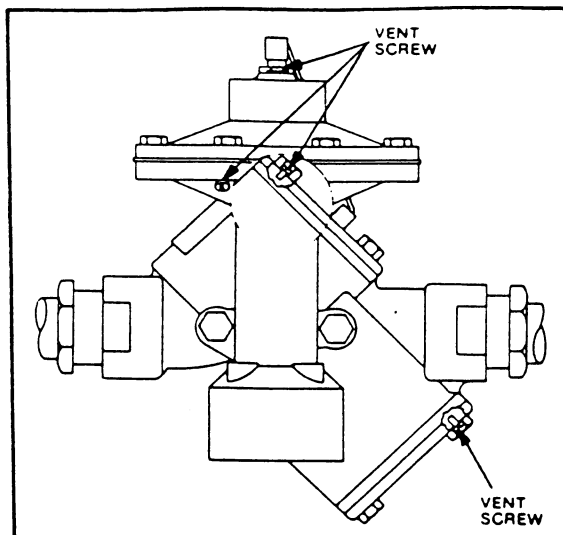

FIGURE 5. VENTING CHECK AND RELIEF VALVES
5. After the device has been pressurized, vent all trapped air from both check valves and the relief valve by opening each of the four vent screws two full turns (Fig. 5). When liquid appears at all the vents, close the four vent screws. Do not remove the vent screws to bleed air.
2. When the unit has been pressurized, vent any trapped air by loosening the vent screws in the valve covers two full turns (Do not remove screws) (Fig. 5). Close the screws when water appears at the vents.